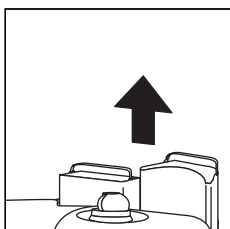

fig. 1
- Lift the lid and remove the water tank located on the right (Fig. 1).
Lift the lid and remove the water tank located on the left (Fig. 1) by pulling it upwards. Fill the tank with fresh clean water making sure not to exceed the MAX mark. Replace the tank in the machine, pressing it slightly so to open the valve at the bottom of the tank. Alternatively the tank can be filled without it being removed by filling with water from a carafe.